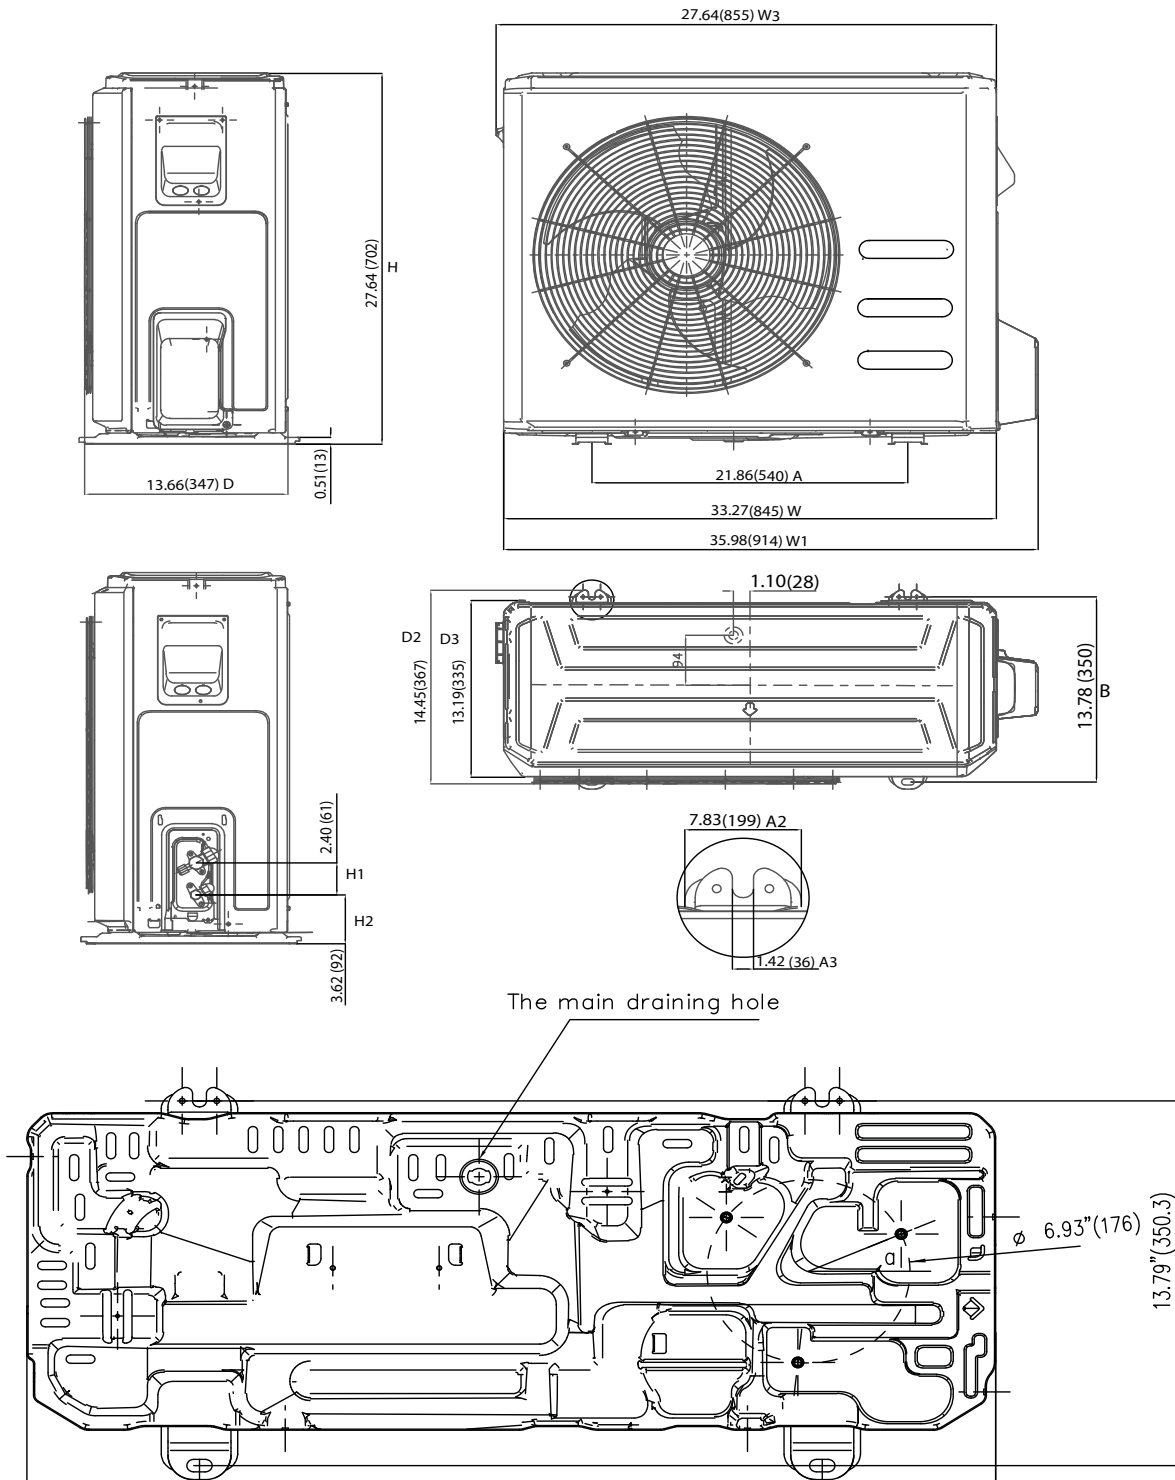

Fig. 3 —Sizes 9K and 12K
Allow sufficient space for airflow and service of the unit. See Fig. 3 for the required minimum distances between the unit, walls or ceilings.
- A location which provides appropriate clearances (see Fig. 3).